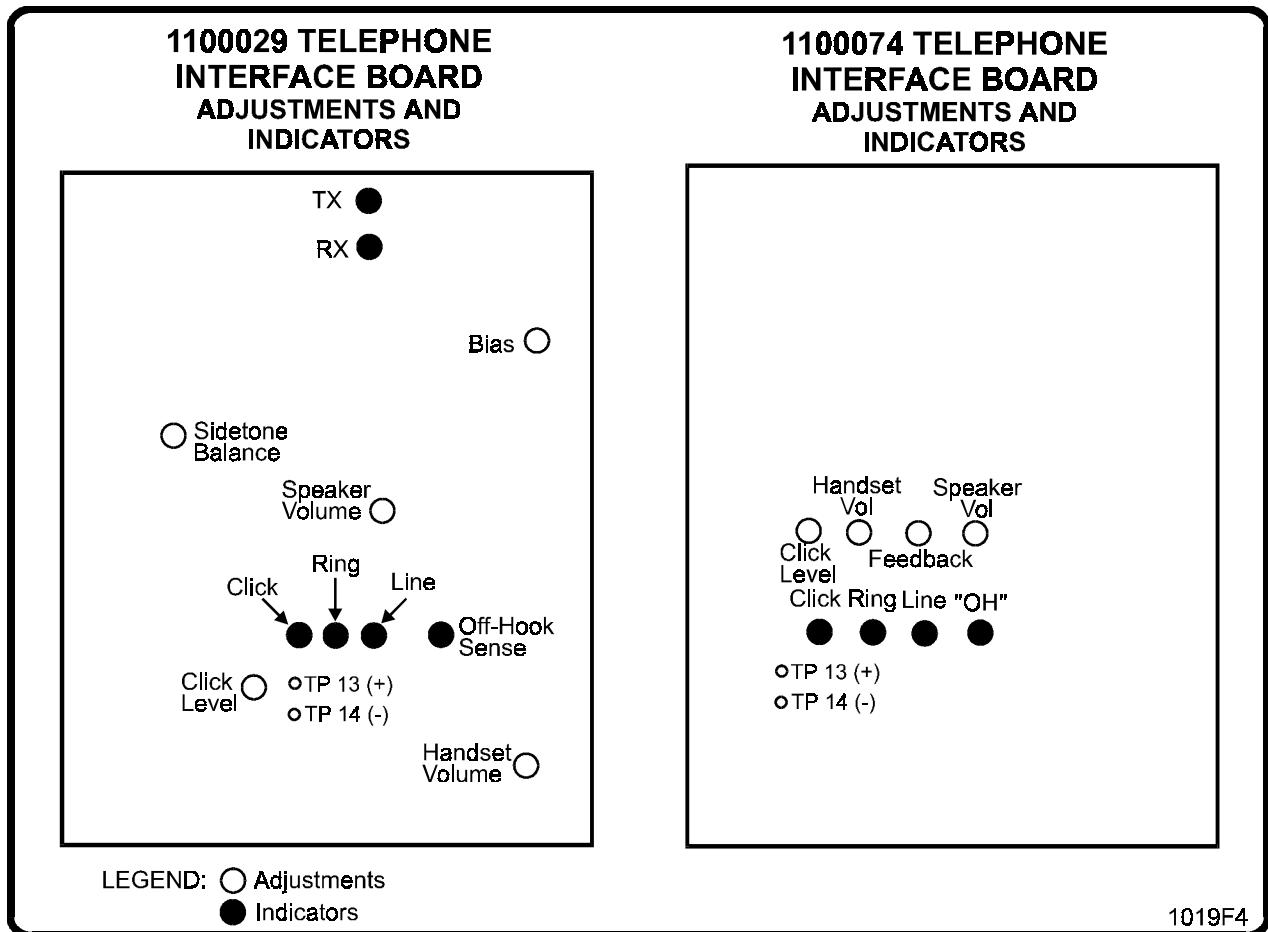

Figure 6. Telephone Interface Boards, Adjustments and Indicators.
1. When the Infinity dials, the "OFF HOOK SENSE" indicator LED on the telephone interface board (see Figure 6) should illuminate and the person dialed should receive the call.
Before making any adjustments, the model of the telephone interface board must be determined (either model 1100074 or 1100029). Look for the number located on the upper left-hand edge of the telephone interface board, preceded by the letters "ASSY". Refer to the appropriate circuit board shown in Figure 6 for adjustments.
- 1) Locate TP 13 and TP 14 to the right of the "CLICK LEVEL" pot (see Figure 6).
1. Set the "CLICK LEVEL" pot (see Figure 6) to the center of its range.
2. Turn the "TENANT BIAS" pot (see Figure 6) counter-clockwise if your voice is being clipped, and clockwise if the tenant's voice is being clipped. Adjust and retest until clipping is gone.
- 1) Locate TP 13 and TP 14 below the "CLICK" indicator (see Figure 6).
- 1) Set the "CLICK LEVEL" pot (see Figure 6) to the center of its range.
2. If connection is made, the "TRANSMIT MODEM DATA" and "RECEIVE MODEM DATA" indicators (see Figure 6) should flash as data is transmitted and received, and you should be able to access the programming mode described in Section 10 of the programming manual.